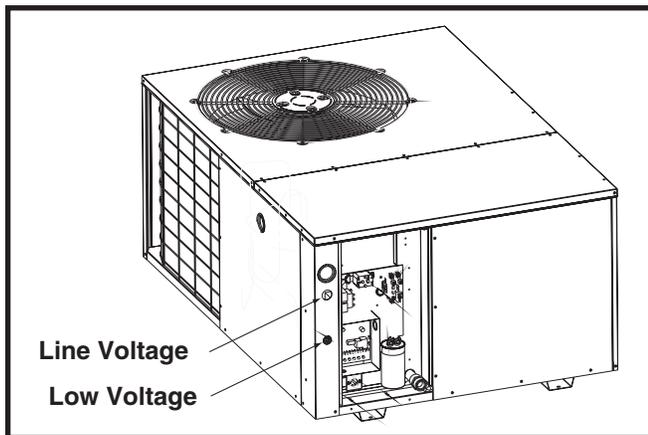

Figure 5. Power Entry Locations
- Provide power supply for the unit in accordance with the unit wiring diagram, and the unit rating plate. Connect the line-voltage leads to the terminals on the contactor inside the control compartment. Extend leads through power wiring hole. Connect **L1 & L2** directly to the contactor. See Figure 5 \(page 6\) for power entry locations.
- The low voltage wires must be properly connected. Route 24V control wires through the sealing grommet near the power entrance. See Figure 5 (page 6). Connect the control wires to the defrost board and blower relay wire. Recommended wire gauge and wire lengths for typical thermostat connections are listed in Table 2.